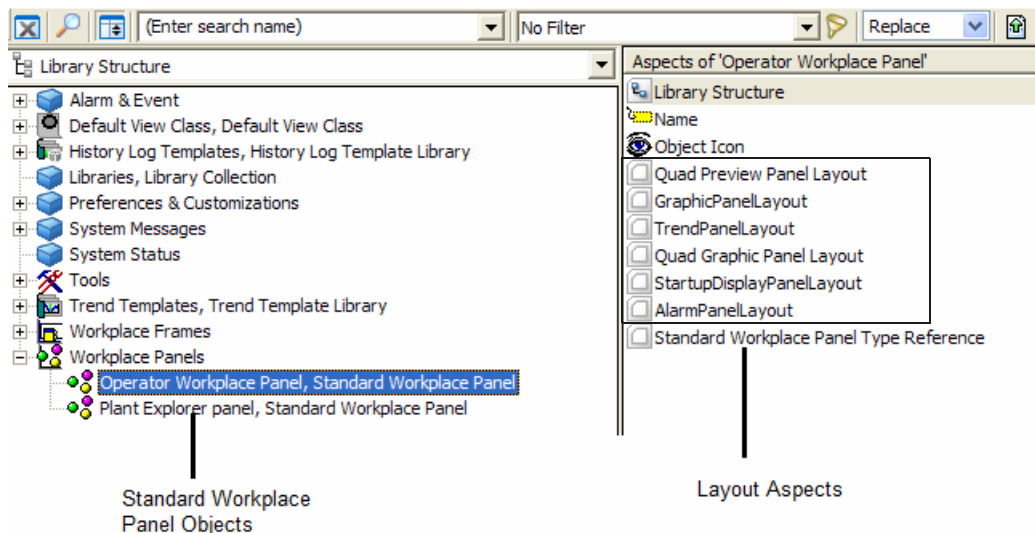
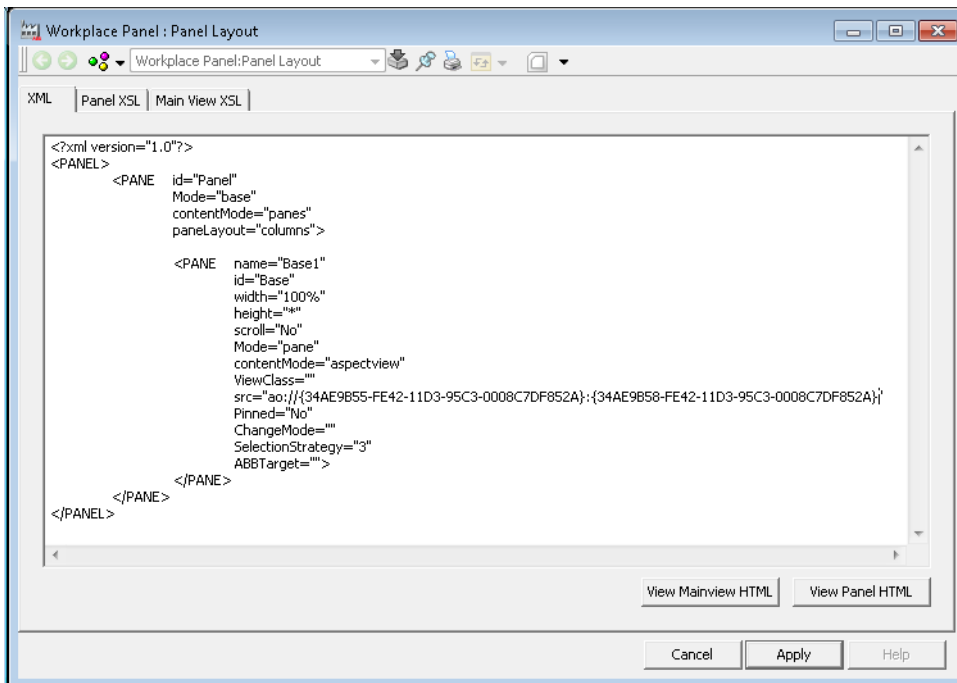

Figure 24. Workplace Panels
Figure 25. Panel Aspect - Path to the Startup Display
Library Structure and are displayed in Figure 24.
- Open the **StartupDisplayPanelLayout** aspect from **Library Structure > Workplace Panels > Operator Workplace Panel** (see Figure 24). Type the path to the display that the workplace should start-up with (see Figure 25 for an example). Start the workplace to verify the changes.